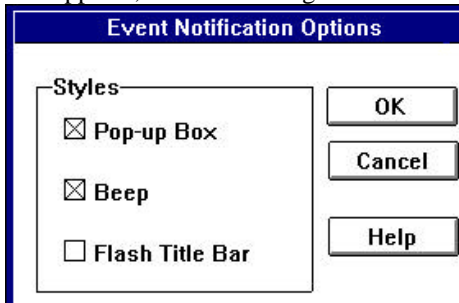

Figure 2-6: Event Notification Options Dialog Box
2. Click **Notification**; the Event Notification Options dialog box appears, as shown in Figure 2-6.
2. Click **Notification** to change the way in which you are alerted of event notifications sent from servers. The Event Notifications Options dialog box appears, as shown in Figure 2-6. Select one or more of the available options.